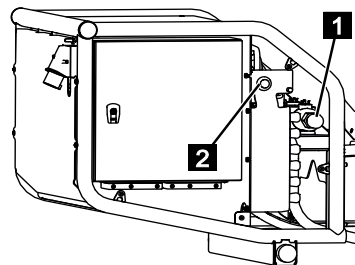

Fig. 177
3. Push in the valve (Fig.177/1) and lock it by turning it clockwise.
4. Press and hold the button [emergency mode] (Fig.177/2).